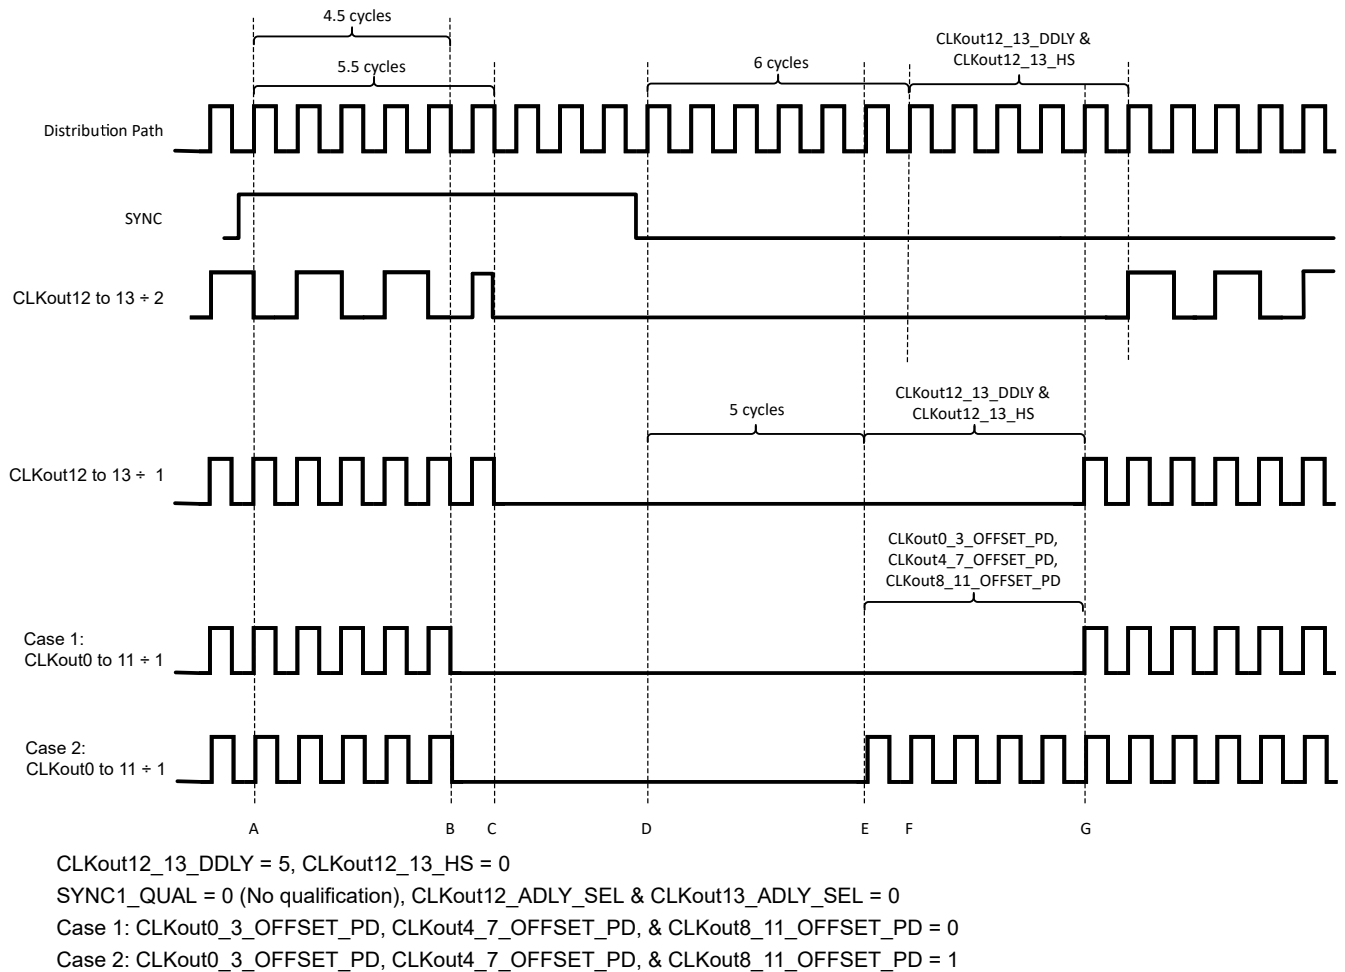

图 9-1. Clock Output Synchronization Using the SYNC1 Pin (SYNC1 is Active High, SYNC1\_POL\_INV = 0)
Refer to 图 9-1 during this discussion on the timing of SYNC. SYNC must be asserted for greater than one clock cycle of the clock distribution path to register the SYNC event. After SYNC is asserted the SYNC event will begin on the following rising edge of the distribution path clock, at time A. After this event has been registered, the outputs will not reflect the low state for 4.5 cycles for CLKout0 to CLKout11 at time B or 5.5 cycles for CLKout12 and CLKout13 if divide = 1 or 6.5 cycles for CLKout12 and CLKout13 if divide > 1, at time C. Due to the asynchronous nature of SYNC with respect to the output clocks, it is possible that a runt pulse could be created when the clock output goes low from the SYNC event. This is shown by CLKout12 and CLKout13. See 节 9.4.6.1.2 for more information on synchronizing relative to an output clock to eliminate or minimize this runt pulse for CLKout12 or CLKout13.
**Step 1:** The device is programmed from register R0 to R5 with values that result in the device operating as desired, see the system requirements above. The phase of all the output clocks are aligned because all the digital delay and half step values were the same when the SYNC was generated by programming register R5. The timing of this is as shown in 图 9-1.